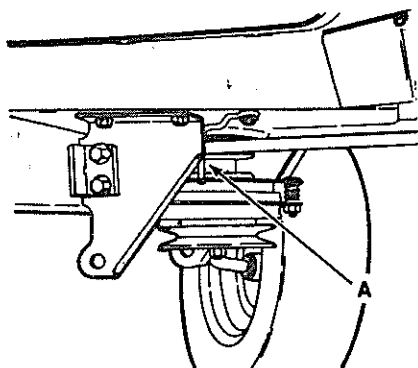

Figure 2-11
1. Loosen electric clutch locating retainer (A, Figure 2-11).
2. Loosen belt guides (N).
3. Remove ball joint (G).
7. Re-tighten electric clutch locating rod (A, Figure 2-11).